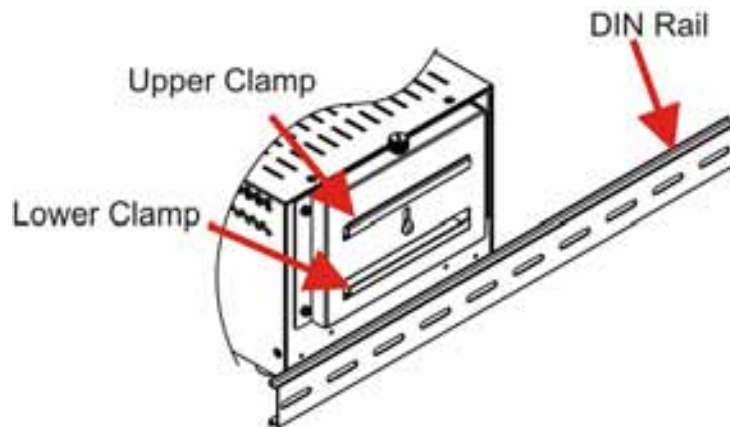

Figure 5-16: Mounting the DIN RAIL
- Step 3:** Place the DIN rail flush against the back of the mounting bracket making sure the edges of the rail are between the upper and lower clamps (**Figure 5-16**).